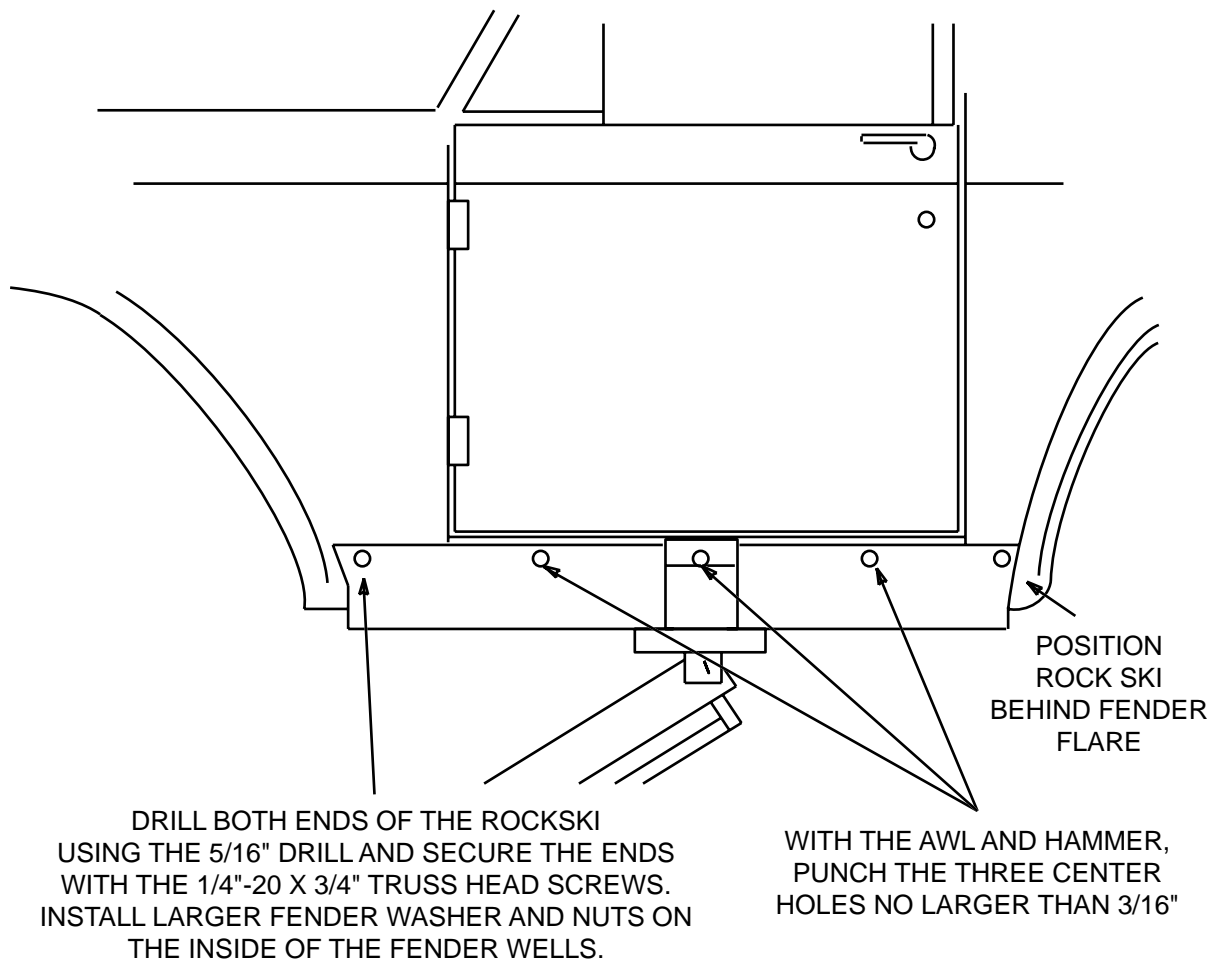

Figure 5
7. From under the Bronco, locate the three mounting holes on the RockSki u-bend. Mark the centers of the mounting using the 5/16" drill bit, DO NOT drill thru! Using the awl, punch the three holes NO LARGER than 3/16". Install #14 truss head screws. See Figure 5.
6. Using the 5/16" drill bit, mark (DO NOT drill thru!) the centers of each of the five holes. Drill the front and rear holes only using the 5/16" drill. Install one 1/4"x20x3/4" truss head screws at each end with a large fender washer and nut on the back side. See Figure 5.
NOTE: If there is bondo the area of the center three mounting holes, pre-drill these holes with the 1/8" drill bit, and carefully enlarge them using the awl. See Figure 5.